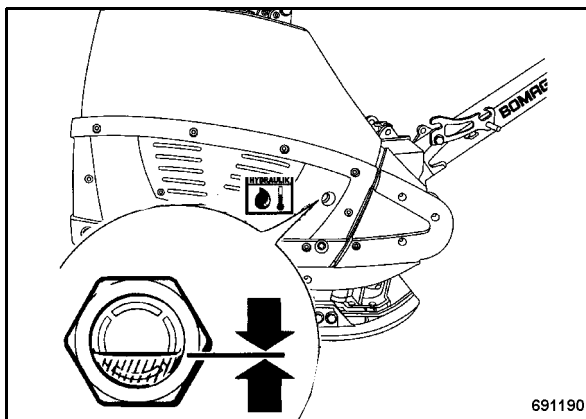

Fig. 47
- Check the oil level in the inspection glass (Fig. 47).